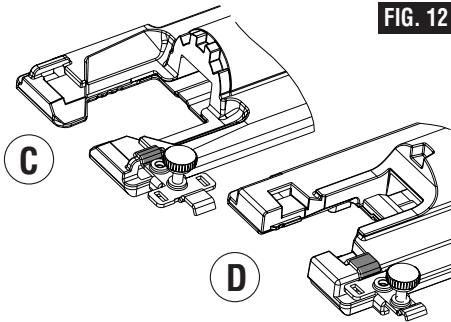

FIG. 12
One end of the clamp is used to attach the guide's bar to jig saws that have narrow tops on their footplate mounting slots (C) and the other end is used to attach the guide's bar to jig saws that have wide tops on their footplate mounting slots (D) (Fig. 12).